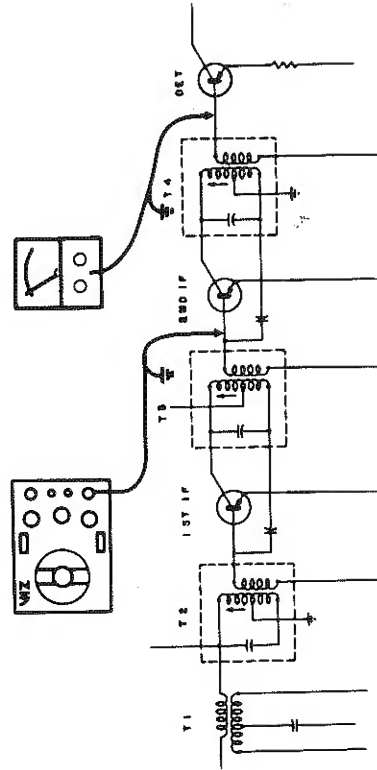

Figure 10. Setup for IF alignment of AM broadcast receivers
1. Set up a VIZ VoltOhmyst® to measure DC voltage and connect it to the output of the second detector, shown as point "1" in Figure 10.
3. Connect the RF output cable of the generator to the input of the last IF stage, shown as point "2" in Figure 10 and tune the WR-50C to the intermediate frequency of the receiver (usually 455 kHz). Apply modulation and use only enough output to produce a useable meter reading.